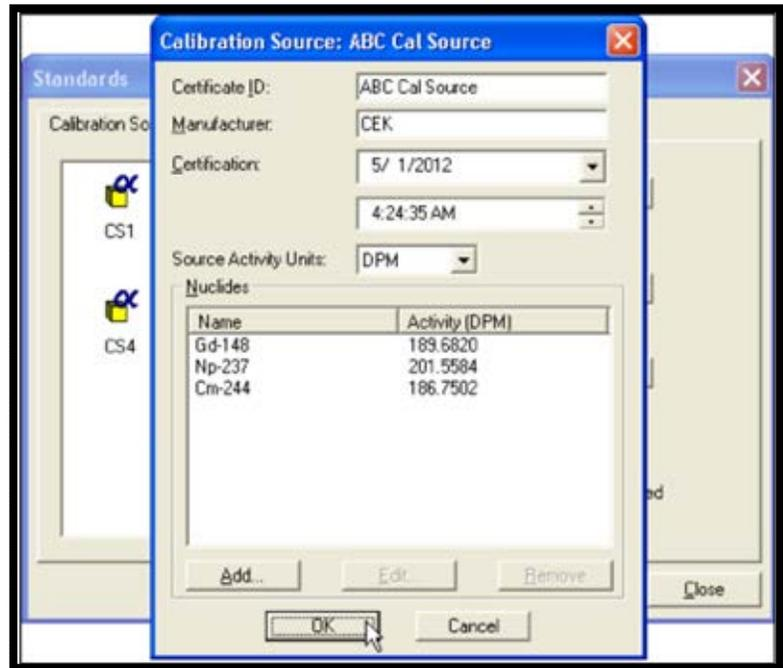

Figure 153. Calibration Source Record
- 4) The resulting record for *ABC Cal Source* should look like Figure 153.